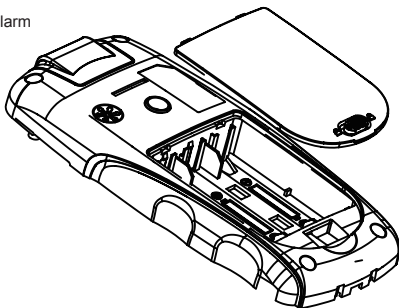

Fig.2.2 Rear Panel
**2) Batteries installation:** Install 3 AA alkaline batteries or rechargeable batteries lightly as indicated by the polarity signs as shown in Fig.2-2.